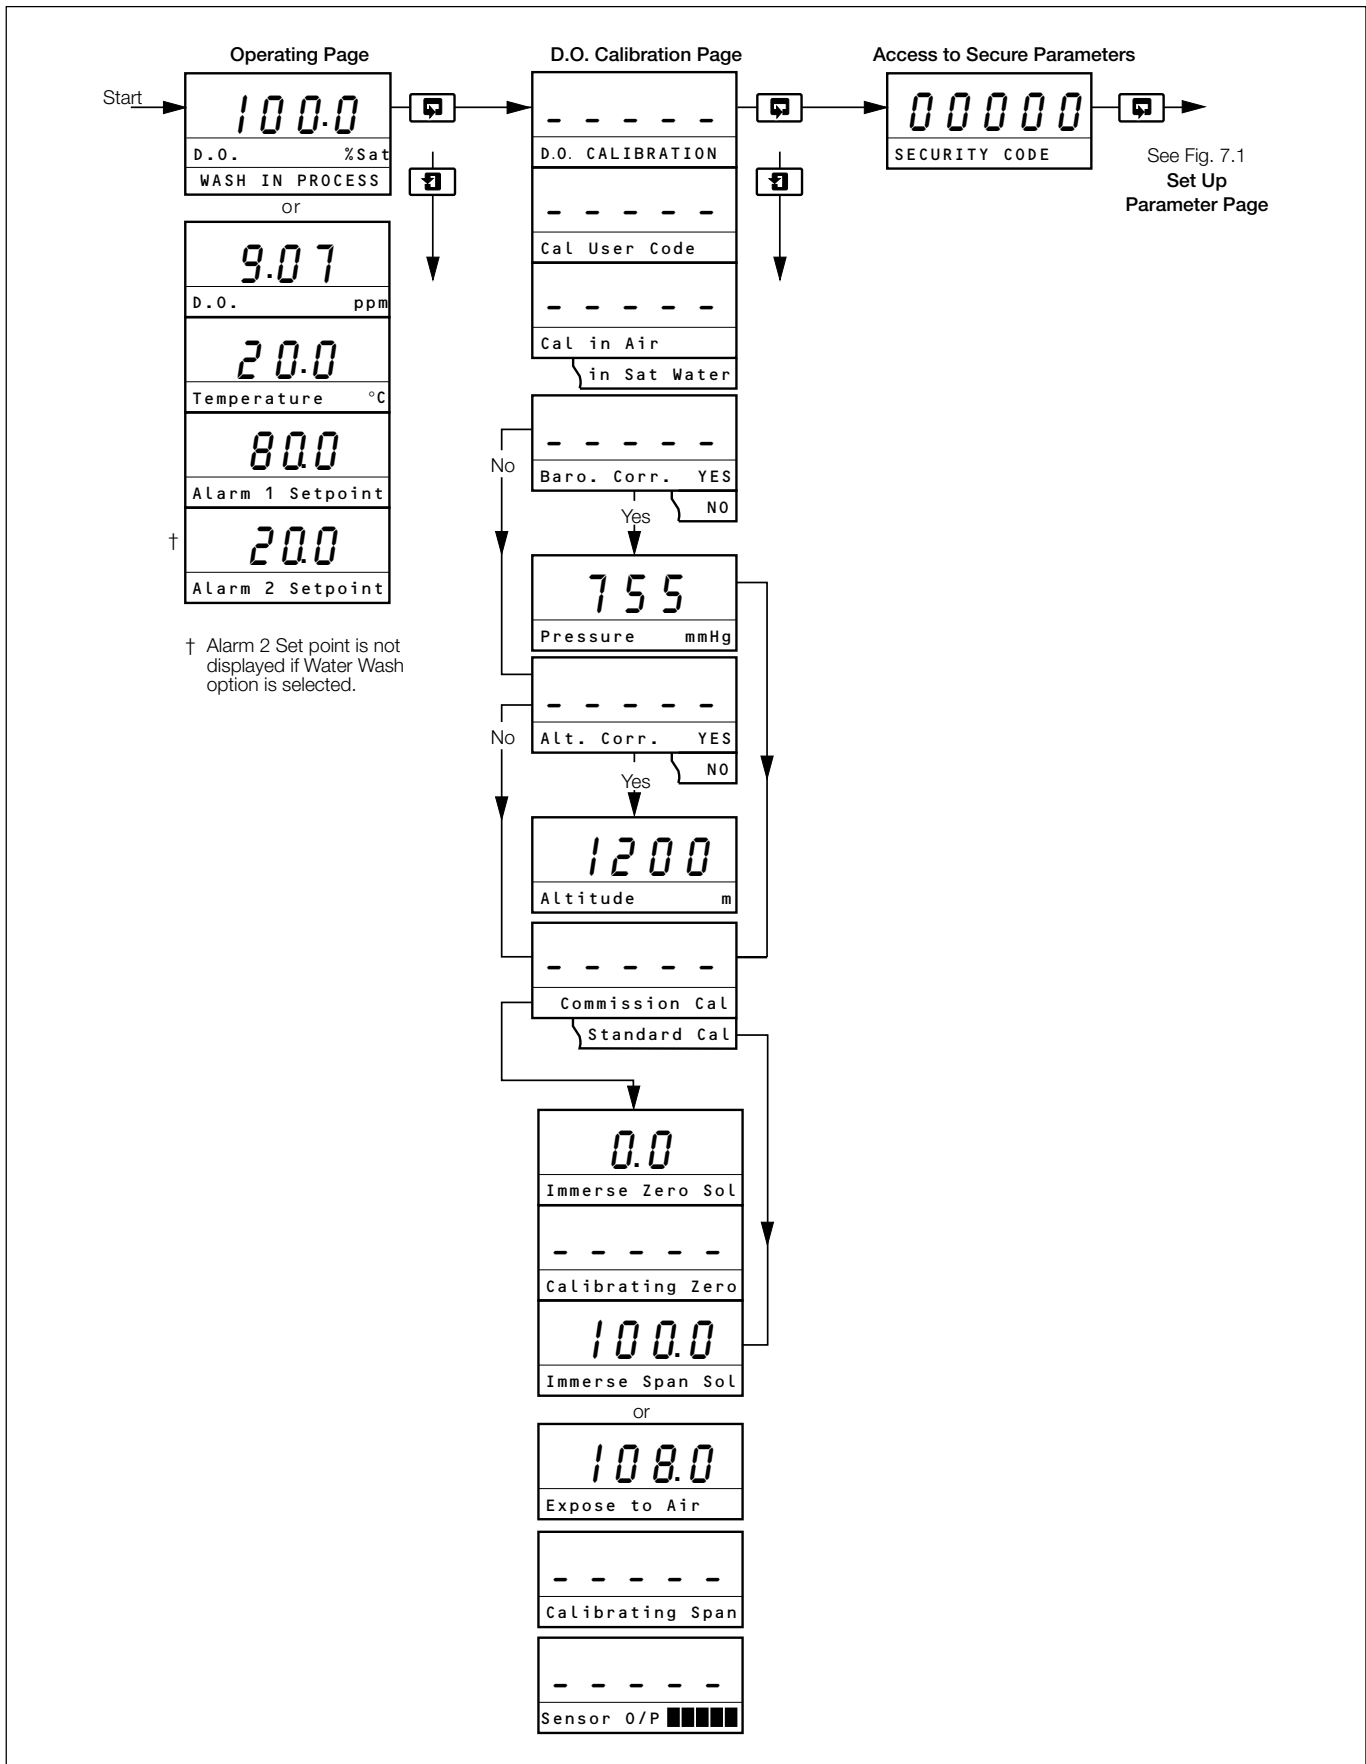

Fig. 6.1 Overall Programming Chart – Operating Parameters
D.O. CALIBRATION – see Fig. 6.1 on page 12.